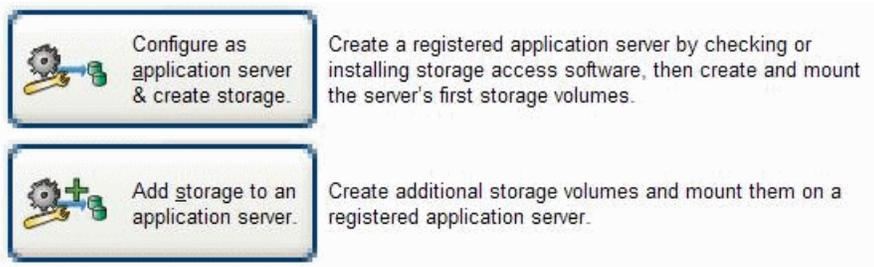

Figure 21 Configure storage initially or add storage
2. Select one of the options shown in Figure 21 to initially configure the application server or to create and mount additional storage volumes: